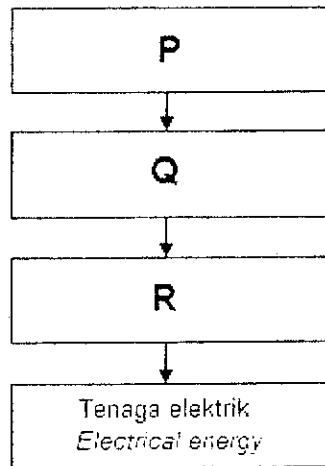

FIGURE 2
2. Figure 2 shows a flow chart of energy transformation in hydroelectric station
- c) With the aid of figure 2, describe how energy transformation happened until electrical energy produced.